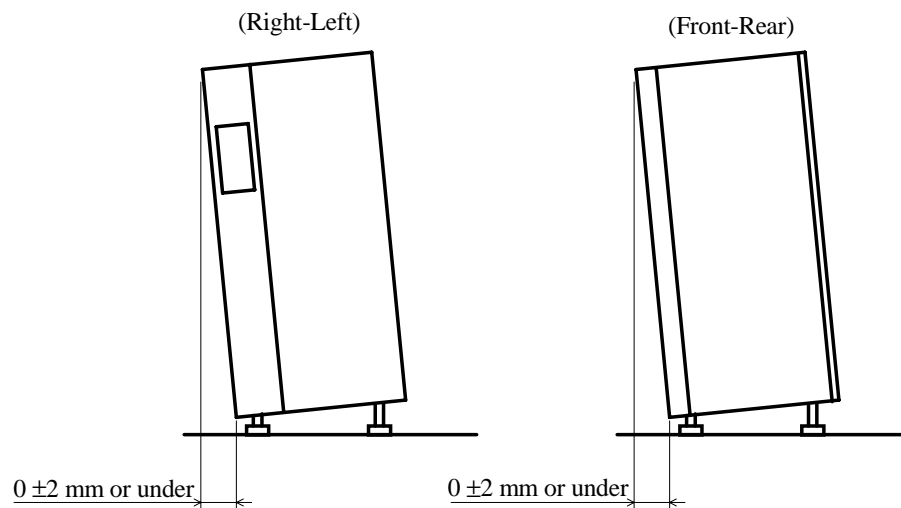

Figure 4.7.3 Inclination of the Rack Frame
- ② Turn the leveling bolts until the status shown in Figure 4.7.3 is obtained.